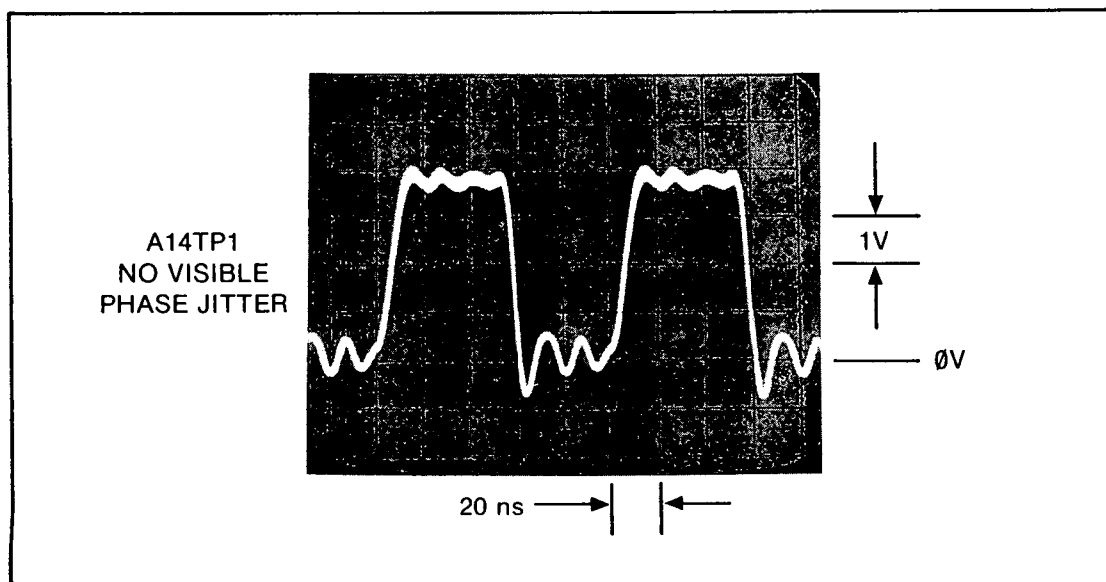

Figure 5-2. 10 MHz Time Base Waveform
- d. The Oscilloscope display of the signal at A14TP1 should look like the waveform shown in Figure 5-2. This should be a 10 MHz TTL signal with no visible phase jitter.